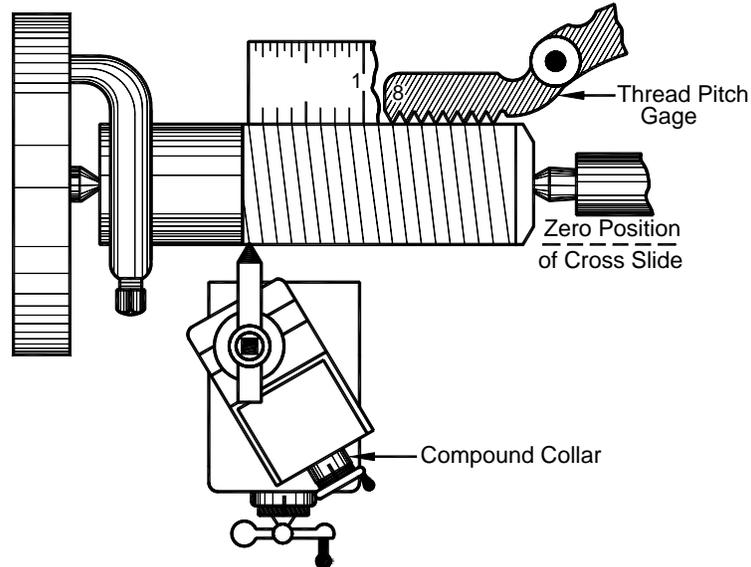

Figure 7-139. Checking thread pitch after initial threading pass.
- 15. Stop the spindle, and using either a thread pitch gage or a ruler, check that the cut is the desired pitch. See Figure 7-139. Correct the gearbox setting and try again if the thread count is wrong.